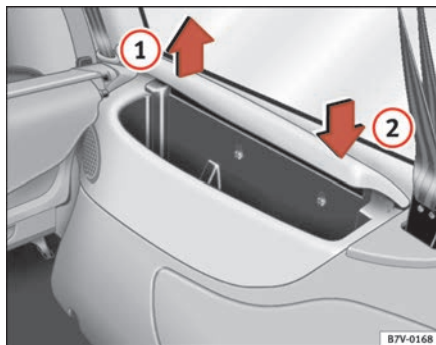

Fig. 102 Stowage compartment in the luggage compartment
To open, pull cover in the direction of the arrow ① ⇒ fig. 102.
To close, push cover in the direction of the arrow ② ⇒ fig. 102. ■